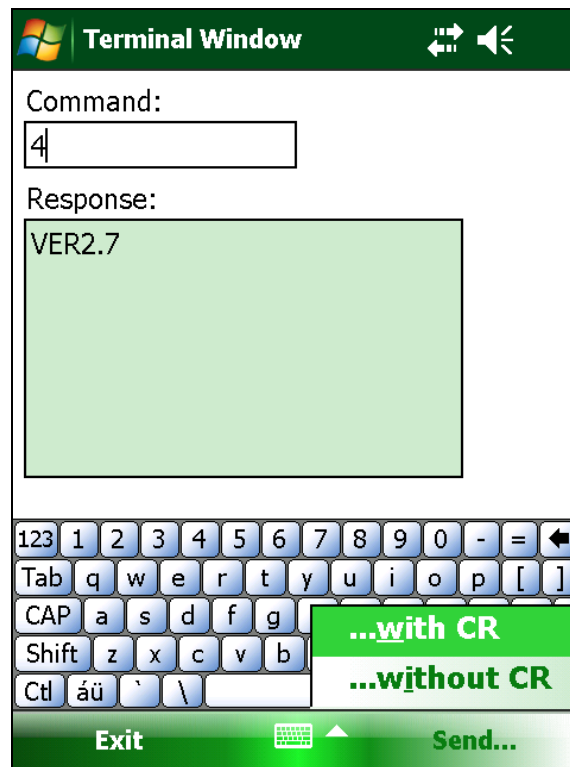

Figure 39 - Terminal Window
If a connection can be made, the window shown in Figure 39 is displayed. Using the “Terminal Window” requires the use of the on-screen keyboard to enter simple one or two character commands to the Remote Module. See Appendix D for more information regarding the Remote Module command structure.
Alternately, tapping the "Send" menu gives the user the ability to send a character to the Remote Module with or without a Carriage Return (CR) appended to the character string (see Figure 39). This is useful when a confirmation character is required (such as for the calibration routine) but no carriage return.